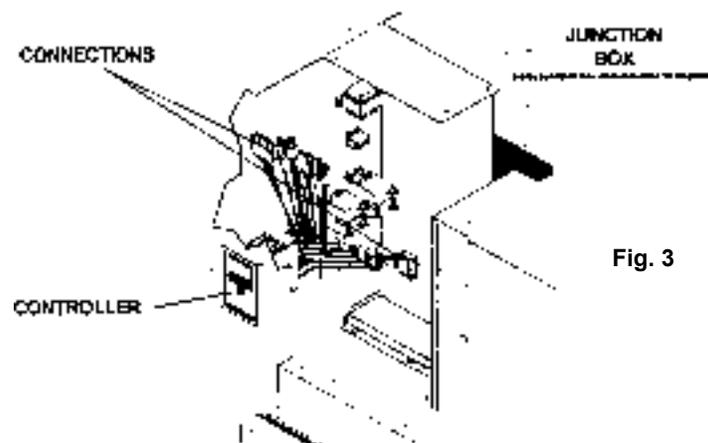

Fig. 3
STEP 1 - At front of unit, remove two (2) slot head thumbscrews from bottom corners of louver assembly. Set thumbscrews aside.
STEP 3 - Remove two (2) Slot head thumbscrews from top of louver assembly. Set thumbscrews and louver assembly aside.
STEP 4 - At the top of the junction box, remove three (3) Phillips head screws. Set screws aside.
STEP 5 - Locate one (1) Phillips head screw at bottom of junction box, and remove. Set screw aside.
STEP 6 - Carefully slide junction box away from front of unit until all wiring and connections to the controller are exposed (see figure 3).